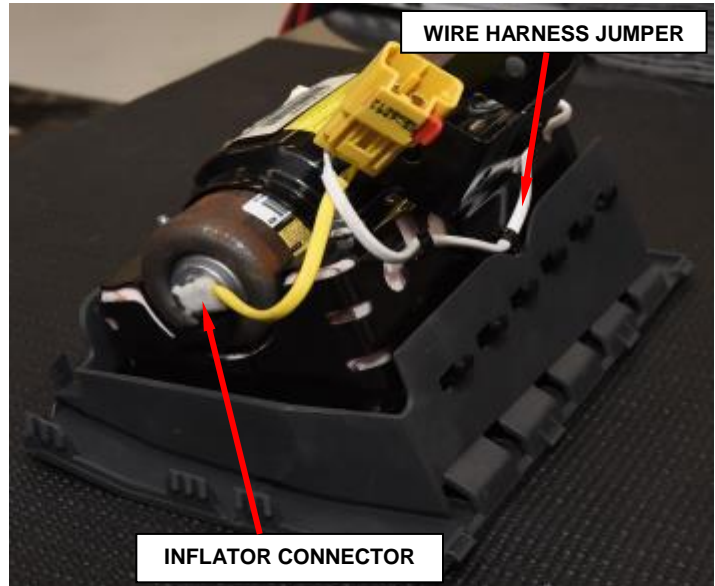

Figure 34 – Inflator Connector
- b. Disconnect the single yellow wire inflator connector from the end of the inflator using pliers (Figure 34).
- q.** Connect the single yellow wire inflator connector to the end of the inflator after removing the protective tape from the end of the inflator (Figure 34).